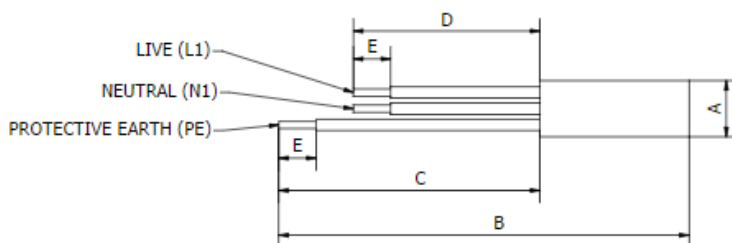
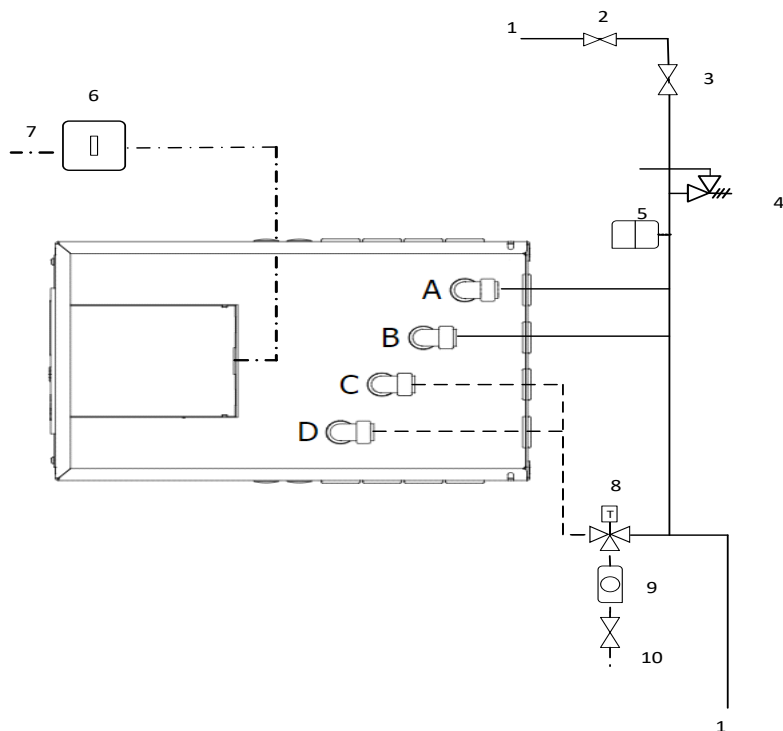

Figure 10: Wire length preparation diagram
Figure 12.1: Example wiring option 1 schematic (see Figure 3 for piping and electrical options available)
- The mains power cable to the Sunamp Controller should be a minimum of 2.5mm², 3 core H05 VV-F sheathed cable, to BS 6500. This cable must be prepared according to Figure 10 (below), where the Green/Yellow (Protective Earth) wire is 15mm longer than the Brown (Live) and Blue (Neutral) wires.
- Run and connect 3 Core mains power supply cable (16A minimum, minimum 2.5mm² CSA) from the Double-pole isolating switch to the Heat Battery controller (Figures 12.1 and 12.2).
- Prepare, if necessary (Figure 10) and wire the mains power cable in the following terminals (Figure 12.1):